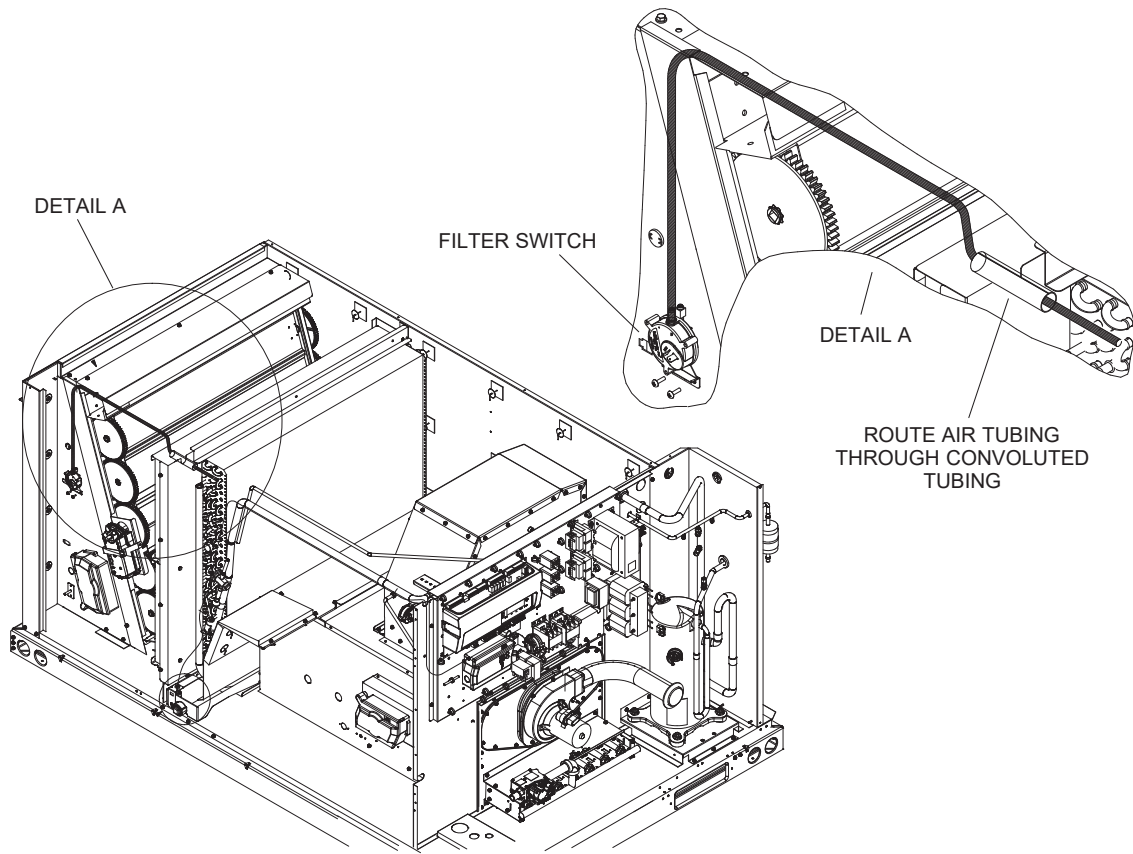
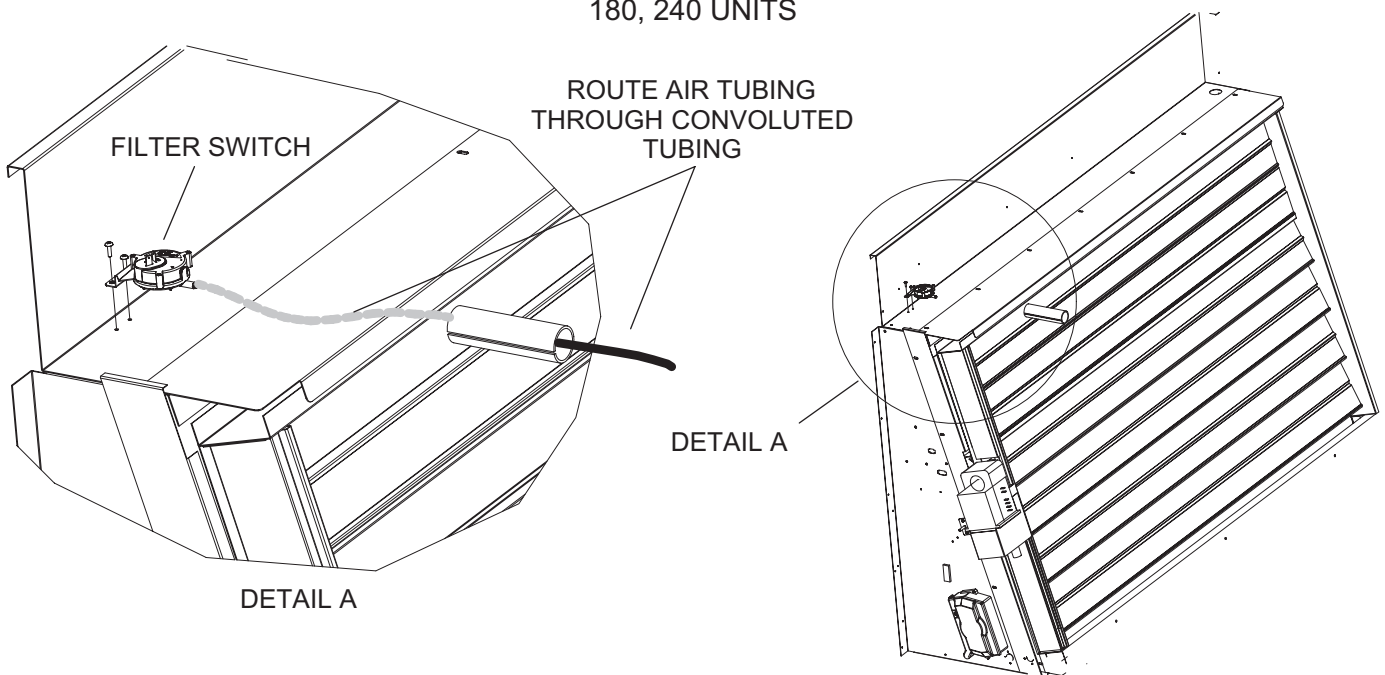

FIGURE 2
FIGURE 3
- 2 - Install filter switch in location shown in FIGURE 2 for 036-120 units and FIGURE 3 for 180/240 units.